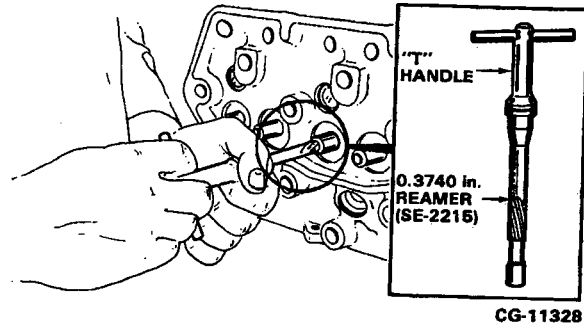

Figure 4.38. Ream Valve Guides
- Ream the valve guide, after installation, using a 0.3740 in. reamer (ZTSE-2215A). Refer to Figure 4.38.